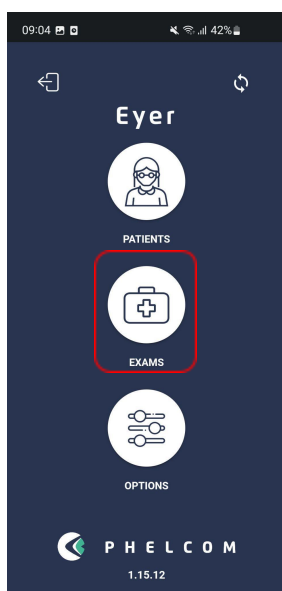

Figure 25 - Home screen - Select exams
1. On the home page, the user must click on "Exams", as shown in figure 25
After login, a screen displays, figure 25. It enables accessing all system functions: patients, exams, and options. Click the synchronization icon  , figure 25, to check transfer status, figure 33.
Access option 1, "Patients", in the main screen, figure 25, to register, visualize, alter information, as well as carry out exams and diagnostics through patient information.
Selecting icon 1, figure 25, displays a screen as in figure 34. Here, a list of registered patient names displays. Activate button  and insert patient information. Highlighted fields in figure 35 must be filled in.